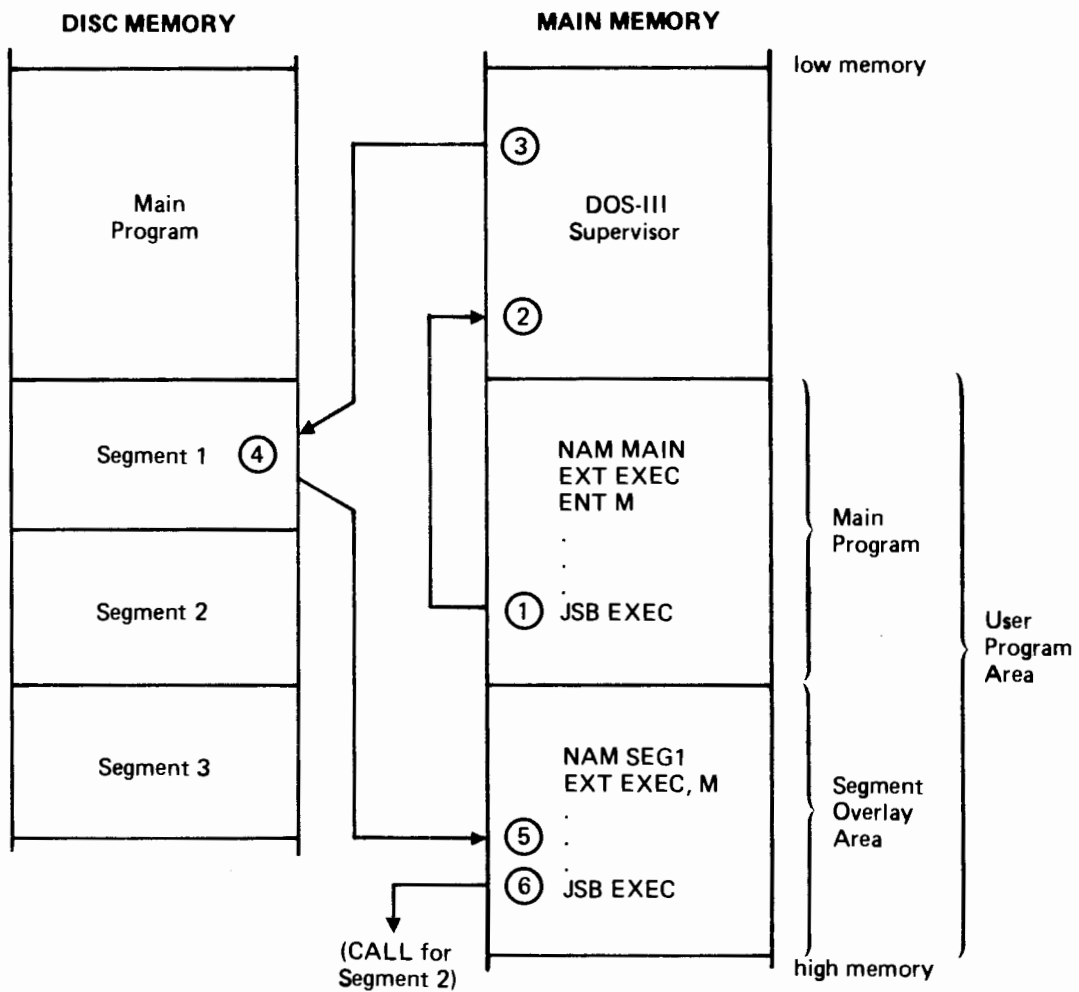

Figure 5-2. Main Calling Segment
Figure 5-2 shows how an executing program may call in any of its segments from the disc using the SEGMENT LOAD EXEC call (1-2). DOS-III locates the segment on the disc (3-4), loads it into main memory (5) and begins executing it. The segment may call in another of the main program's segments using a similar EXEC call (6).